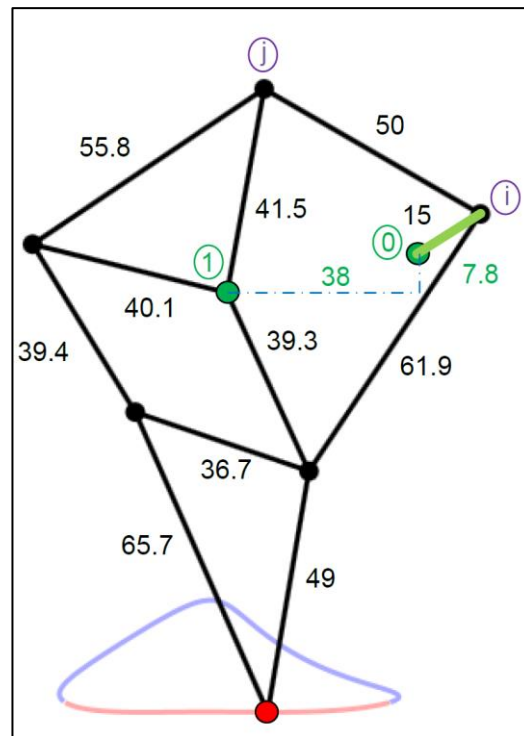

Figure 1: The Jansen Mechanical Linkages
The Jansen Mechanical Linkage of Figure 1 is a planar linkage. This is a system with one degree of freedom (moves in one plane). The input crank (highlighted in green) rotates counter-clockwise and transfers movement to the red joint, resulting in a looping motion traced by the blue and red path at the bottom.
**Assign Vectors:** Assign each link a vector with direction and length of the link given in Figure 1.